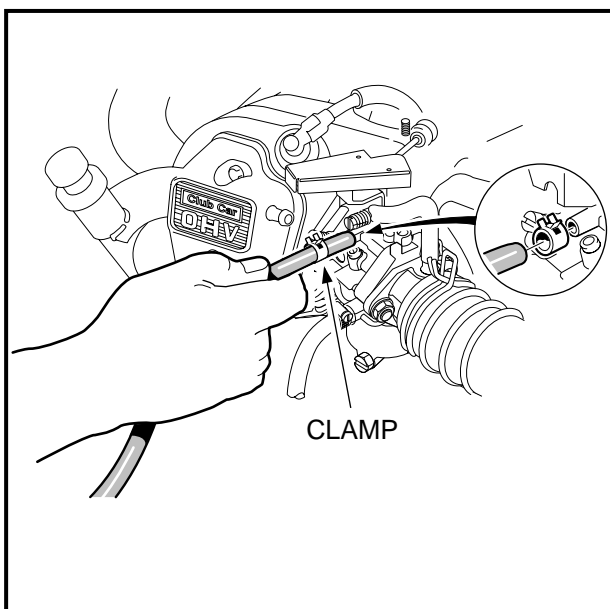

Figure 16-112 Carburetor Vent Tube
32. Connect carburetor vent tube to carburetor and secure with hose clamp (**Figure 16-112, Page 16-45**).